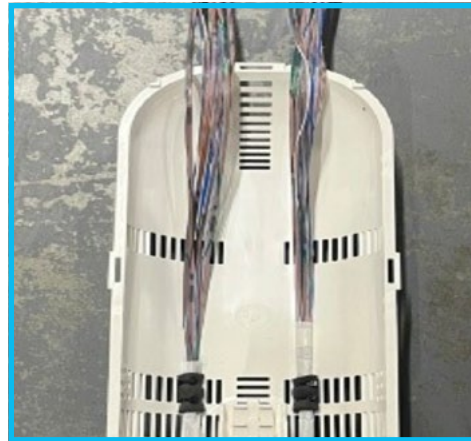

Figure 35
2. Lay the fibres over the basket over the basket [Figure 35].